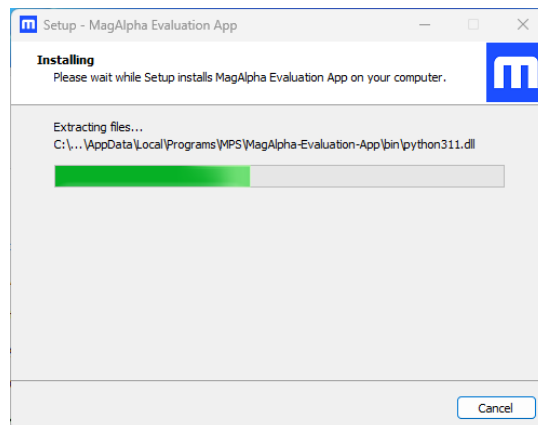

Figure 13: Installation Wizard (Installing)
- Wait for installation to be complete (see Figure 13).